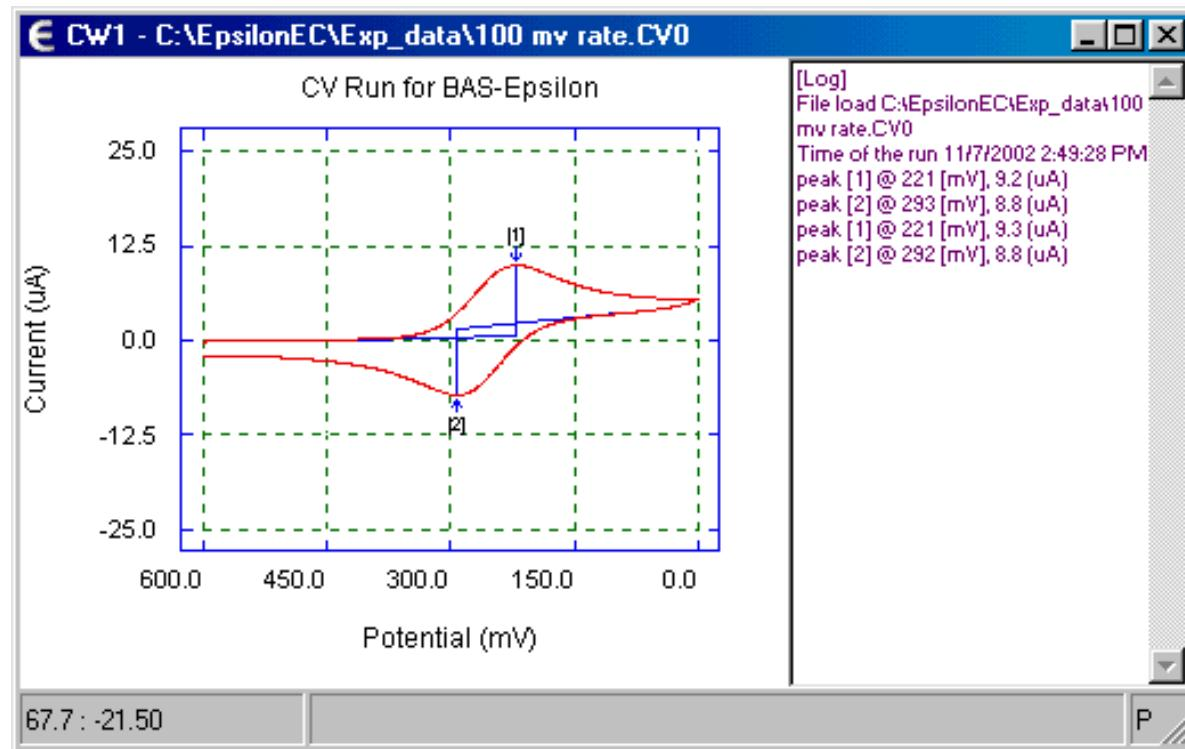

Figure 4. Cyclic Voltammetry graph.
5. After the experiment has been run, the voltammogram will be displayed (Figure 4). Note the information about the experiment and the peak parameters on the right side of the graph (this can be removed by clicking **Text Info (Right Column)** in the **Graph-Display** menu or the pop-up menu).